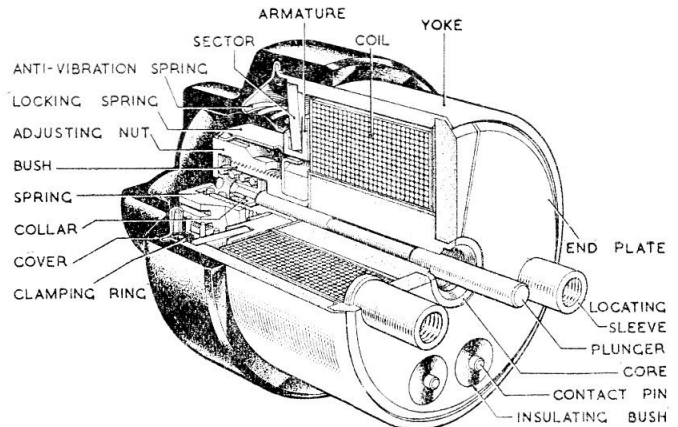

Fig. 1. Solenoid unit, Type C5151Y, Mk. 1
2. The solenoid unit (*fig. 1*) comprises a coil assembly and an armature assembly located in a yoke assembly, fitted with the necessary electrical connections.